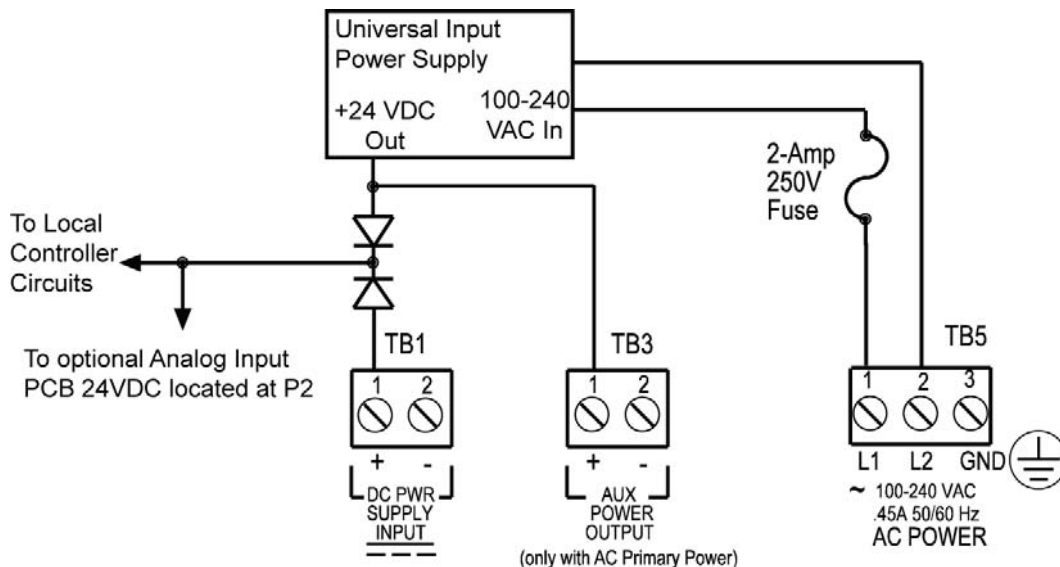

Figure 2-3. Power Distribution
- **TB3** - 24 VDC universal output power supply with up to 350mA available to power optional remote devices such as alarms, horns, lights, relays, etc. 24VDC is only available when AC power is applied at TB5 to the 7200 Plus. Refer to Figure 2-3 for distribution of AC and DC power.